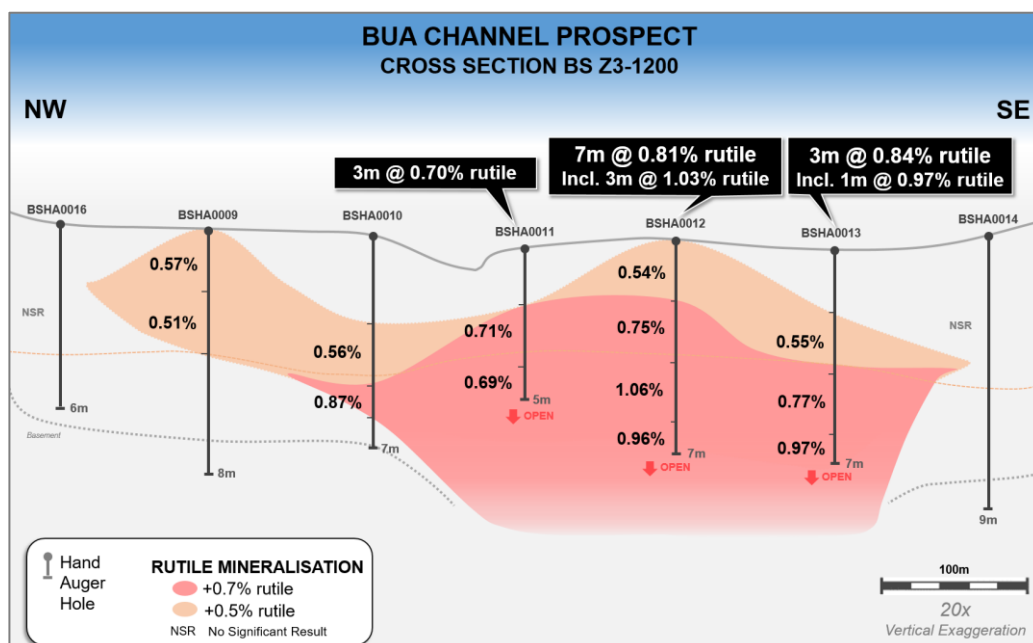

Figure 1. Cross-section BS Z3-1200 showing initial hand-auger drilling results and rutile mineralisation at Bua Channel.
- ◆ Key hand-auger results include (Figure 1):
All results received to date for Bua Channel are shown in Table 1 and Figure 1.